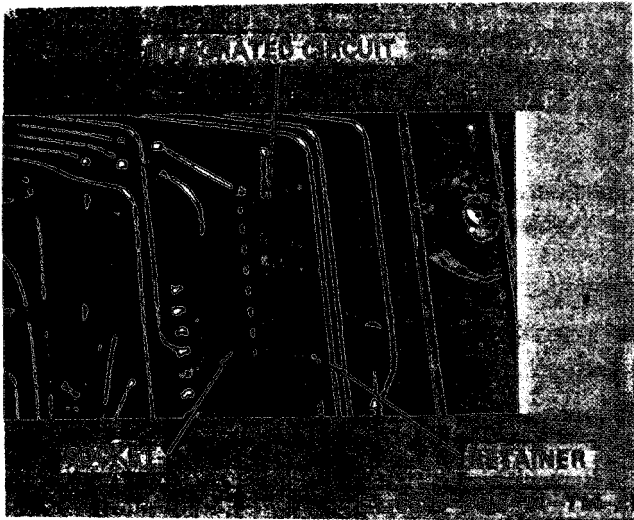

Figure 7-3. Integrated circuit package.
(3) The integrated circuit package consists of three parts: the integrated circuit, the retainer, and the socket (fig. 7-3).
(4) Carefully grasp the faulty or suspected integrated circuit at each end (use a standard pair of pliers or thumb and forefinger) and gently pull straight upward and away from the socket.